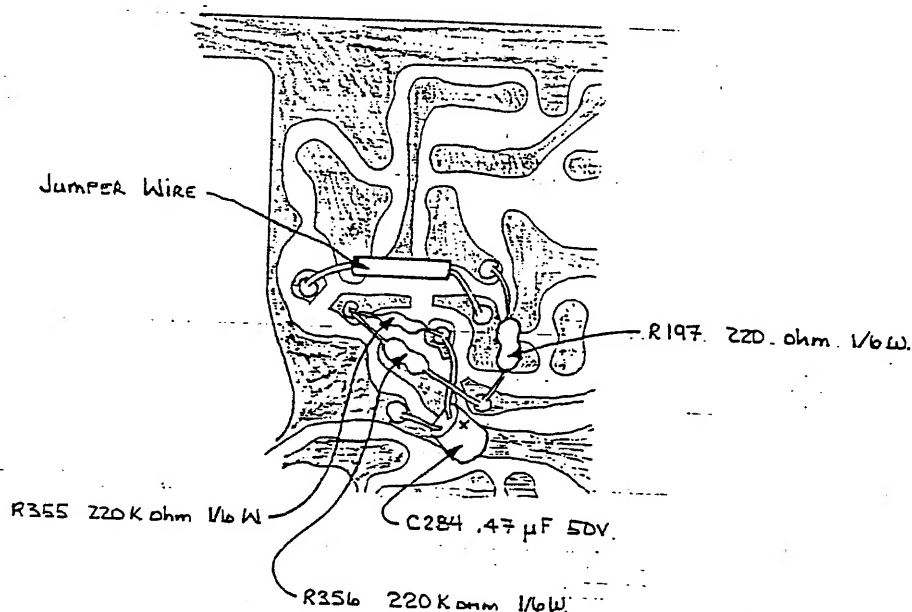

FIGURE 3
11. On the foil side of the board, add the 3 resistors (R197, 355, 356) as shown in figure 3.
12. Add a small jumper wire as shown in figure 3.
13. Add capacitor C282 as shown in figure 3. Observe polarity and insulate the positive (+) lead with shrink tubing.